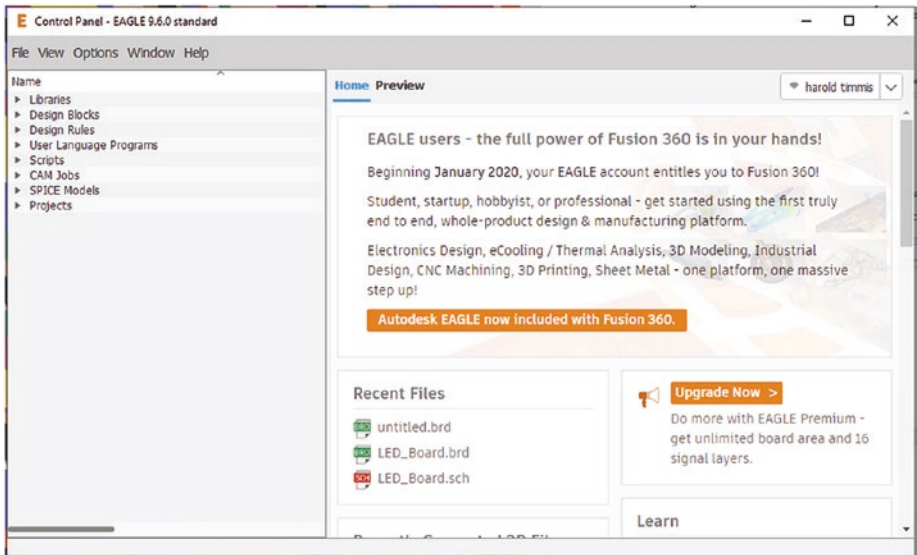

Figure 5-14. *Open Eagle*
1. Open Eagle. See Figure 5-14.